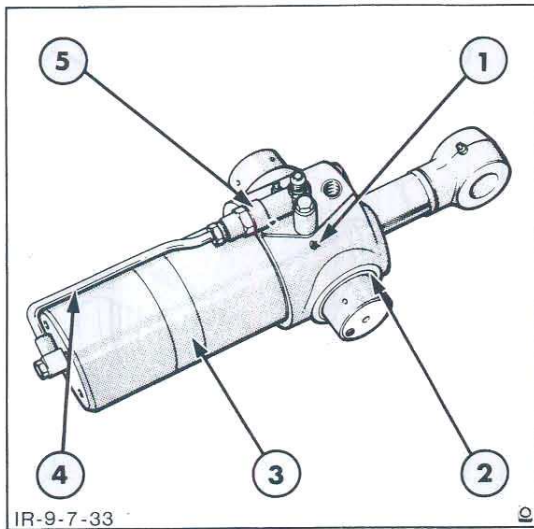

Figure 35
2. Remove the locking screw from the headstock/gland, Figure 35.